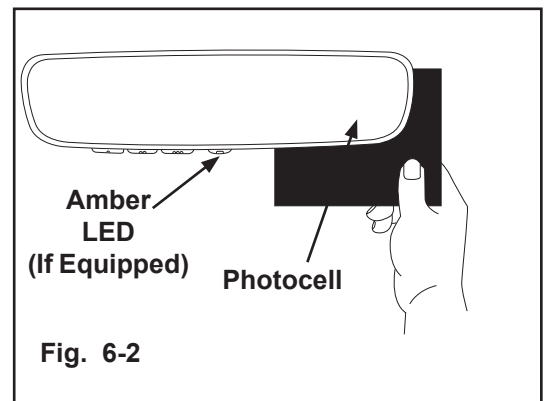

Fig. 6-2
- b) Cover the forward looking photocell on the back of the mirror and in a few seconds the mirror will begin to darken. (Fig. 6-2)